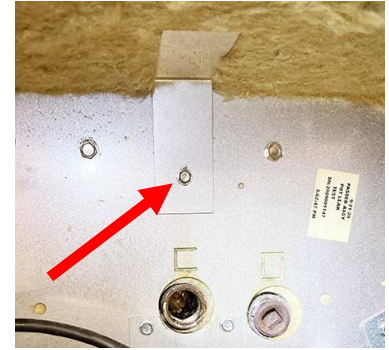

Figure 30
33. Remove the screw attaching the upper foam deck L-bracket insulation holder, directly above the cook probe port (see Figure 30).